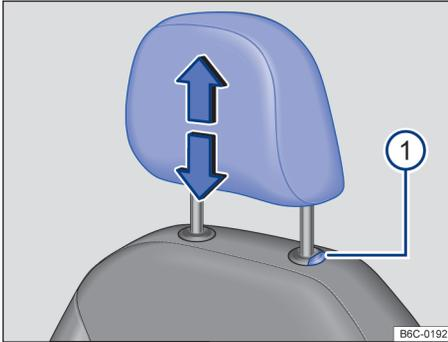
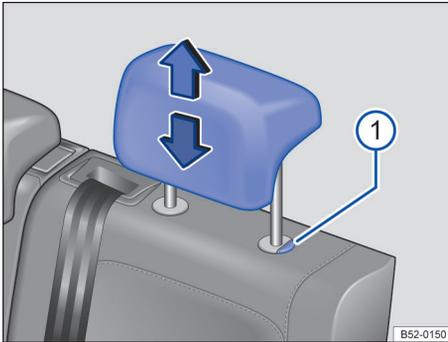

Fig. 65 Front seat head restraint: adjust.
Fig. 66 Rear seat head restraints: adjust.
- Move the head restraint up- or downward as indicated by the arrows, with the → Fig. 65 ① or → Fig. 66 ① button pressed → ▲ in Introduction on page 74.